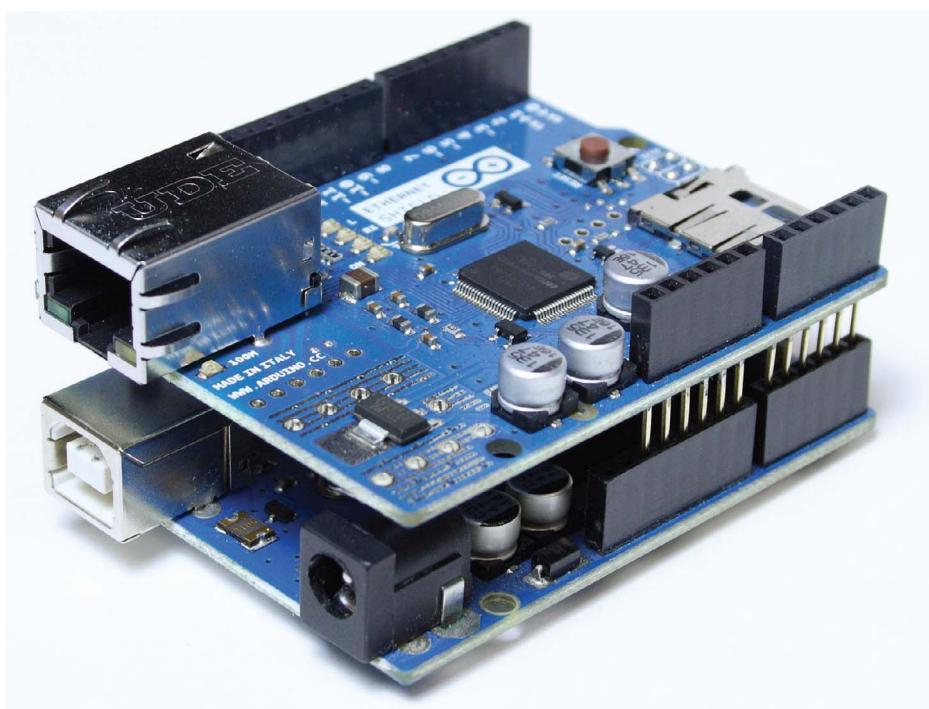

FIGURE 3-4: Arduino Uno with an Ethernet Shield
- An Arduino Ethernet Shield (Figure 3-4) or equivalent. These boards enable you to connect to a wired network and connect to a server to post data, or even create a small server to which you could connect with your Android device via a browser. An equivalent use scenario would be using an Arduino Ethernet board, which merges an Arduino Uno together with an Ethernet Shield into a single circuit.